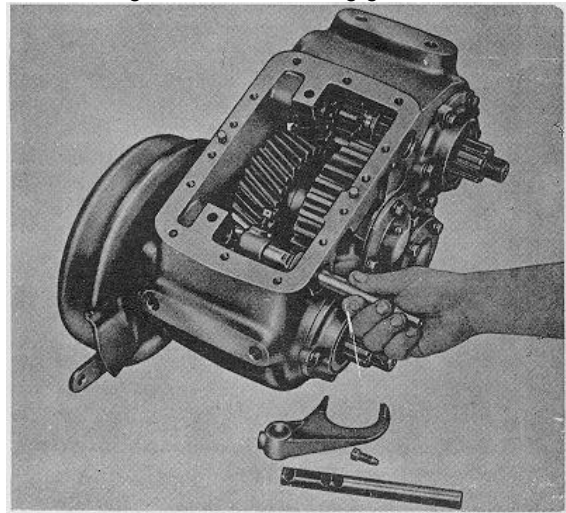

Fig. 41.
38. Grease declutch shift shaft and slide it into case and through fork (Fig. 41).